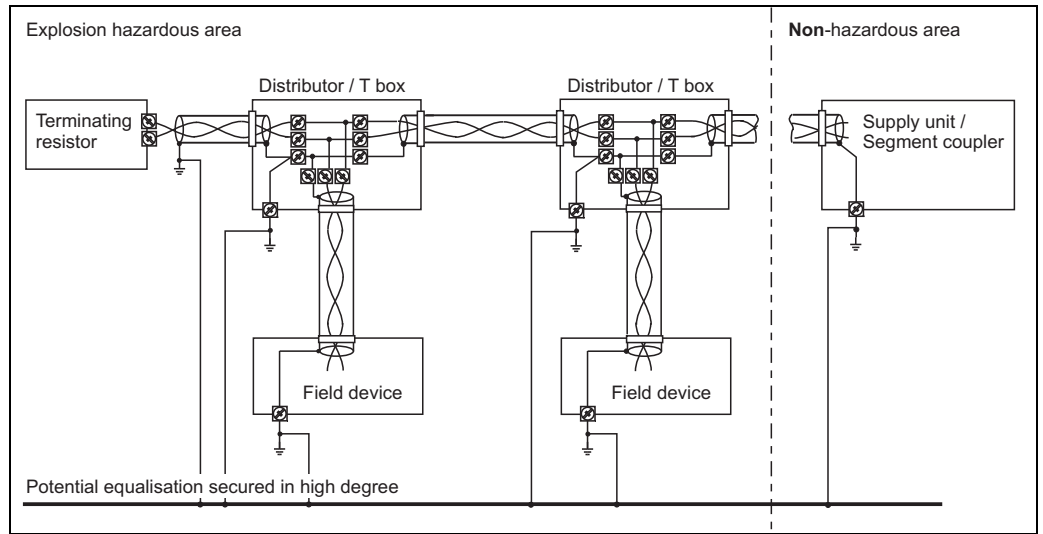

Fig. 3
- For grounding the screen, see figure 3 and 4.